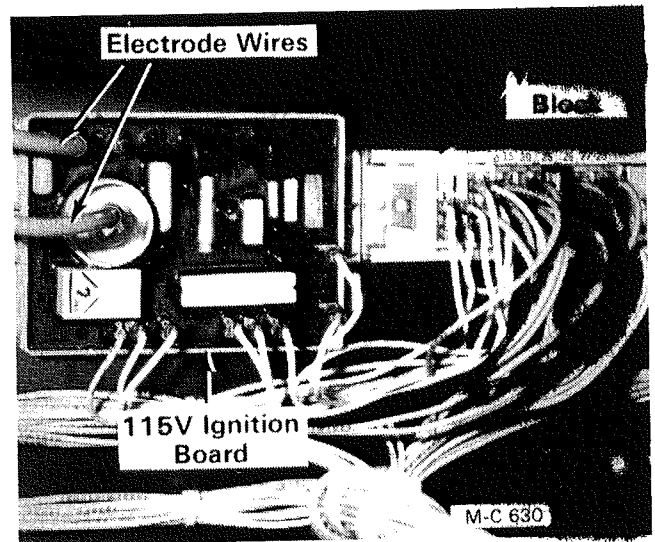
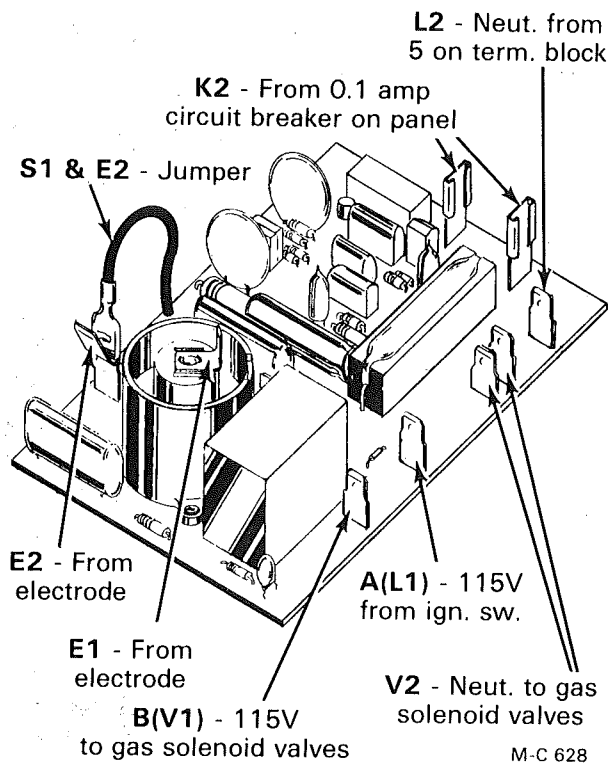

Figure 53
Figure 55
- A. Flip the ignition switch OFF. Remove the electrode wires from terminals E-1 and E-2 on the ignition board, see Figure 53, 53A and 54. Also see Figure 55 and 55A, page 34.